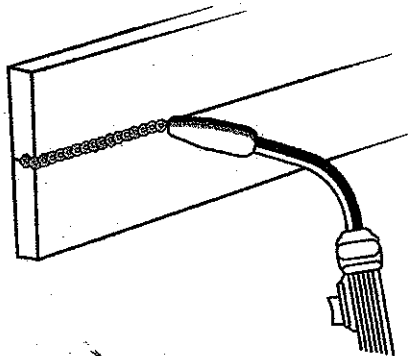

Figure 15. Horizontal Position
2. The **HORIZONTAL POSITION** (Figure 15) is next in difficulty level. It is performed very much the same as the flat weld except that